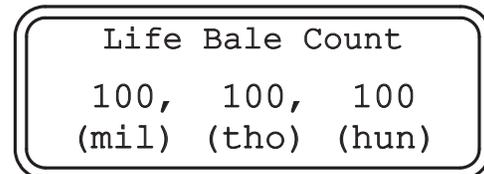

Figure 13 - Life Bale Count Screen
- Life Bale Count (see Figure 13)